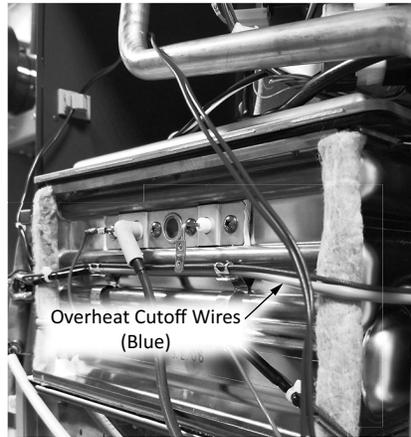

Figure 14: Overheat cutoff.
2. Locate the white OHCF which wraps around the heat exchanger (See Figure 14).